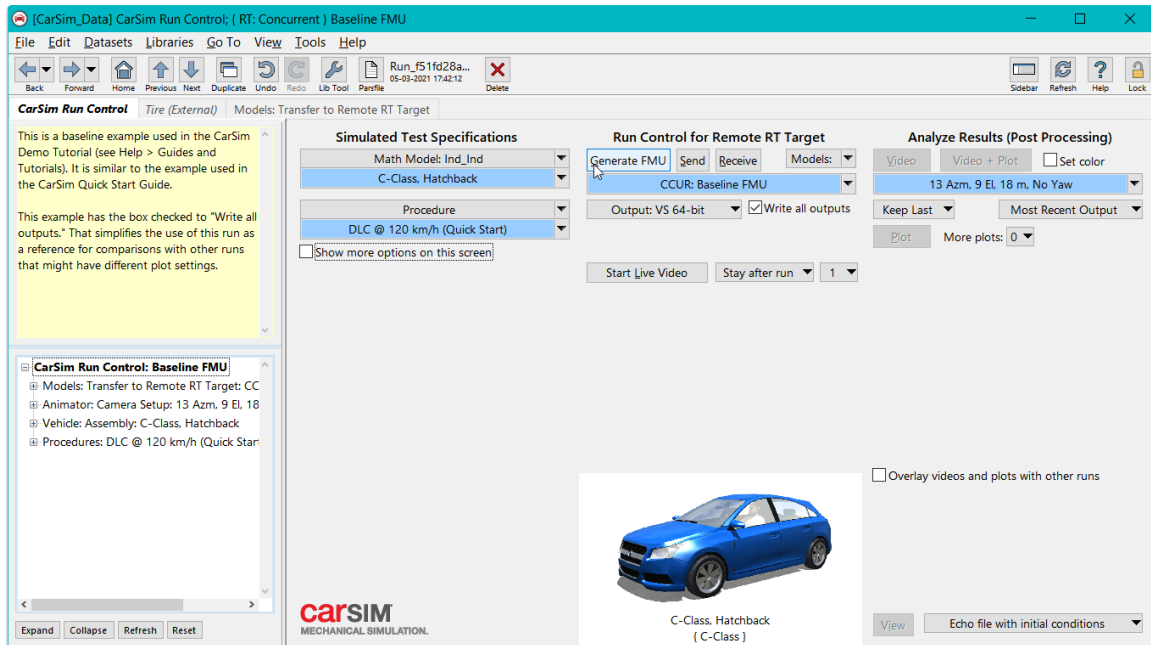

Figure 22. Run Control Screen, Generate FMU.
4. Go back to the **Run Control** screen. Click the **Generate FMU** button (Figure 22).